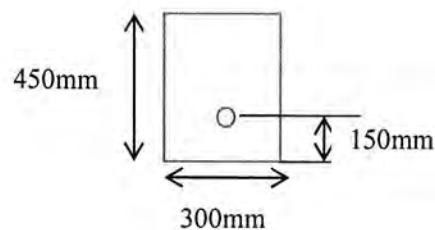

Fig: 8
- [8] Draw the Bending Moment Diagram of the beam shown in Figure 8 by employing the Flexibility Method. Consider, $E = 45 \times 10^3 \text{ ksi}$, $I = 1800 \text{ in}^4$.
10. A simply supported prestressed-concrete beam with a midspan section of 300 mm×450 mm (*Fig: 8*) has a simple span of 8 m and is loaded by a uniform load of 35 kN/m including its own weight. The prestressing tendon is located as shown in the *Fig: 8* and it produces an effective prestress of 2250 KN. Using the first concept of prestress concrete find out the fiber stresses at the midspan section.